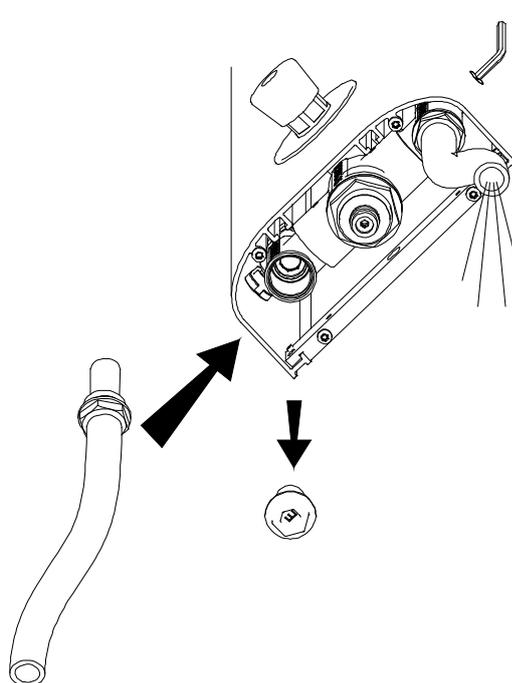

Fig. 6
- 2.3.4 Using a 4mm (or 5/32") hex key, adjust the temperature of the mixed water. Turn the screw anticlockwise to increase the temperature, or clockwise to reduce it. See fig.6.
- 2.5.1 Finally, check the thermal shut-off facility of the TMV by performing a Cold Isolation Test (sometimes colloquially called a “fail-safe” test) as follows. With the shower running full, close the cold (i.e. right side) servicing valve. [The Servicing Valve is closed when the arrows are in the horizontal position, and open when they are in the vertical position: see Fig. 6]. If there is any flow after 5 seconds, this must amount to no more than 120ml in 60 seconds of collecting. If there is more than this amount, find possible corrective actions in the “Maintenance” section below. If the Cold Isolation Test is satisfactory,